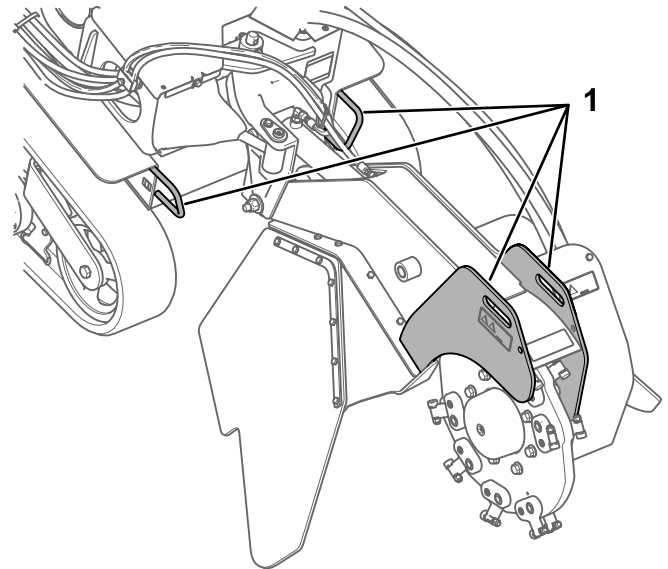
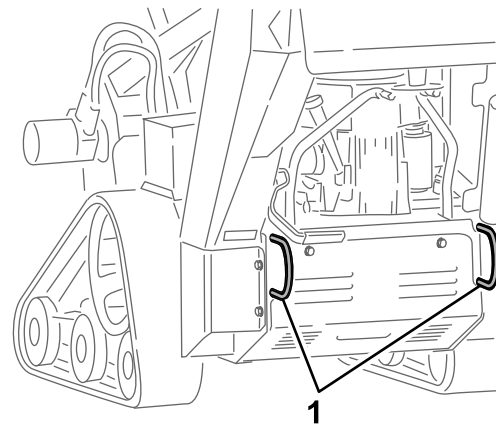

Figure 22
Figure 23
3. Secure the machine to a trailer with chains or straps using the tie-down/lift loops at the front and rear of the machine (Figure 22 and Figure
You can lift the machine using the tie-down/lift loops as lift points (Figure 22 and Figure 23).